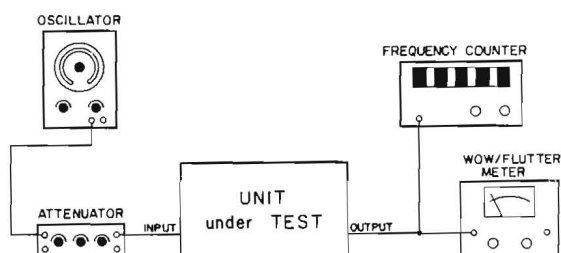

Fig. 6-8
- 1) Connect a frequency counter to the OUTPUT terminals as shown in Fig. 6-8.